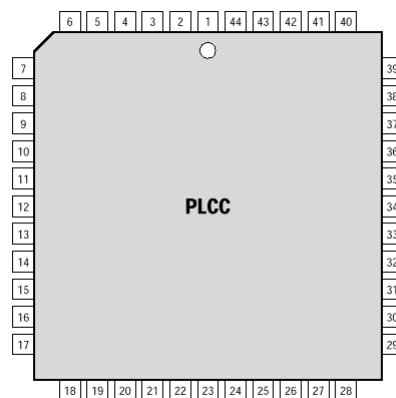
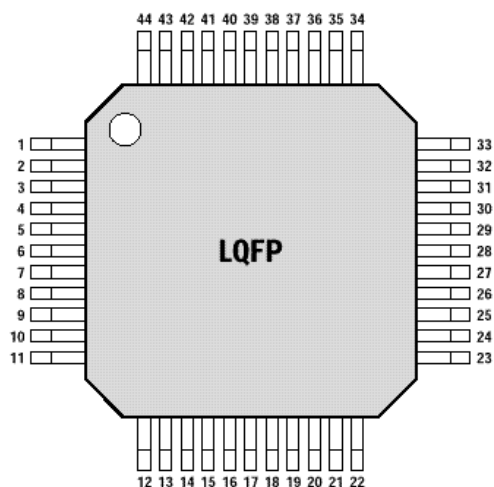

Figure 1. 44-pin PLCC package
Figure 2. 44-pin PLCC package
- 44-pin PLCC (Figure 1 and Table 2) and 44-pin LQFP (Figure 2 and Table 3) packages.